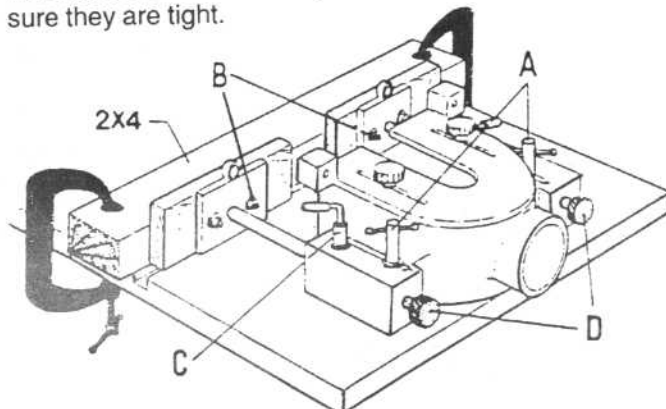

FIGURE 8
1. Check the two mounting screws A, Figure 8 holding the fence assembly to the table and make sure they are tight.
3. Take a 2 x 4 with a jointed edge and clamp it to the shaper table making sure the jointed edge is absolutely on line with the miter groove and close to the fence as shown in Figure 8.